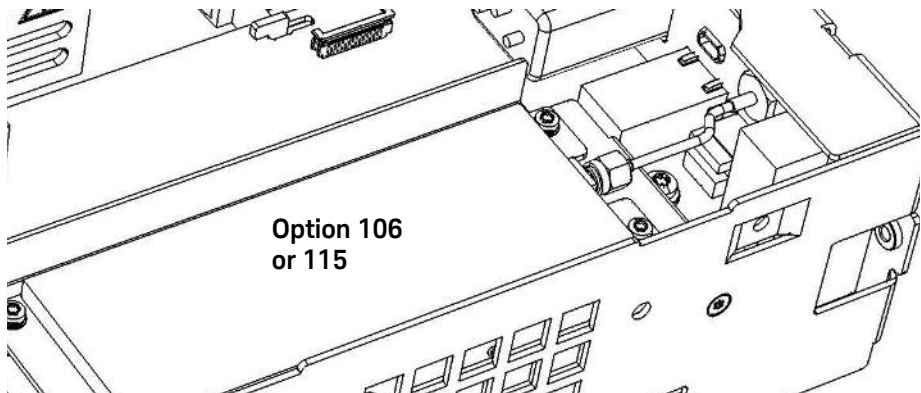

Figure 4-22 Channel 3 assembly installed on top of the motherboard, with the female SMA edge connector pointing toward the rear.
- 4 Set the Channel 3 assembly down on top of the motherboard so that the female SMA edge connector is towards the rear panel. The front flange on the right-front of the Channel 3 assembly bracket must rest on the tab protruding from the front panel (see Figure 4-22).